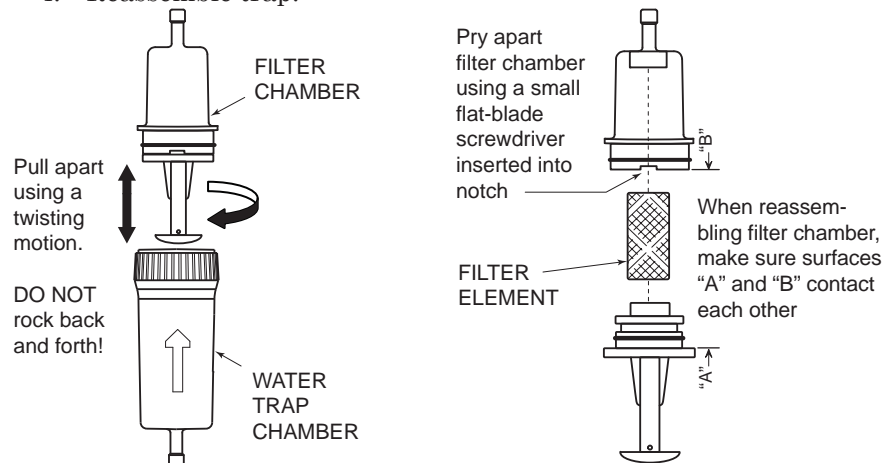

Figure 6-5. Disassembling the Water Trap/Filter Assembly
1. Remove water trap chamber per Figure 6-5.